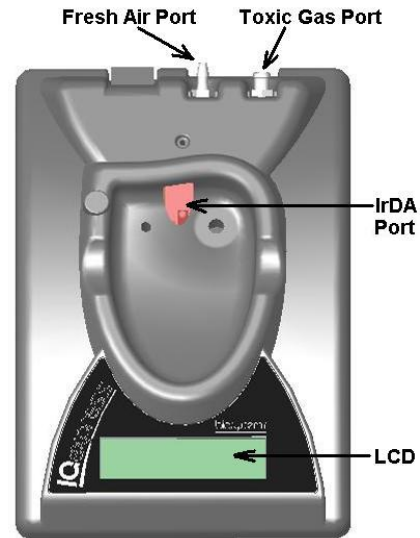

Figure 2.7. IQ Express Gas Ports
3. Connect the end of the tubing with the white quick disconnect fitting to the toxic GAS port on the IQ Express Dock (see figure 2.7 above for location of the GAS port).